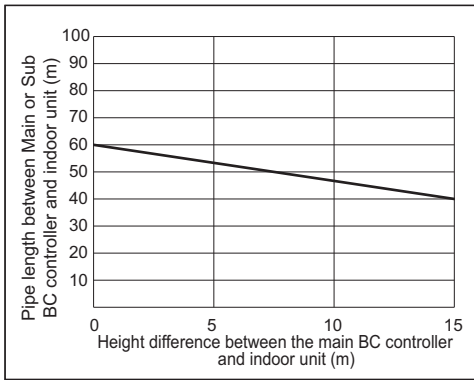

Fig. 2
- \*9. When the piping length or the vertical separation exceeds the limit specified in Fig. 2, connect a sub BC to the system.
When using indoor models M140 or larger, the restrictions shown in Fig. 2 cannot be exceeded.
\*9. When the piping length or the vertical separation exceeds the limit specified in Fig. 2, connect a sub BC to the system.